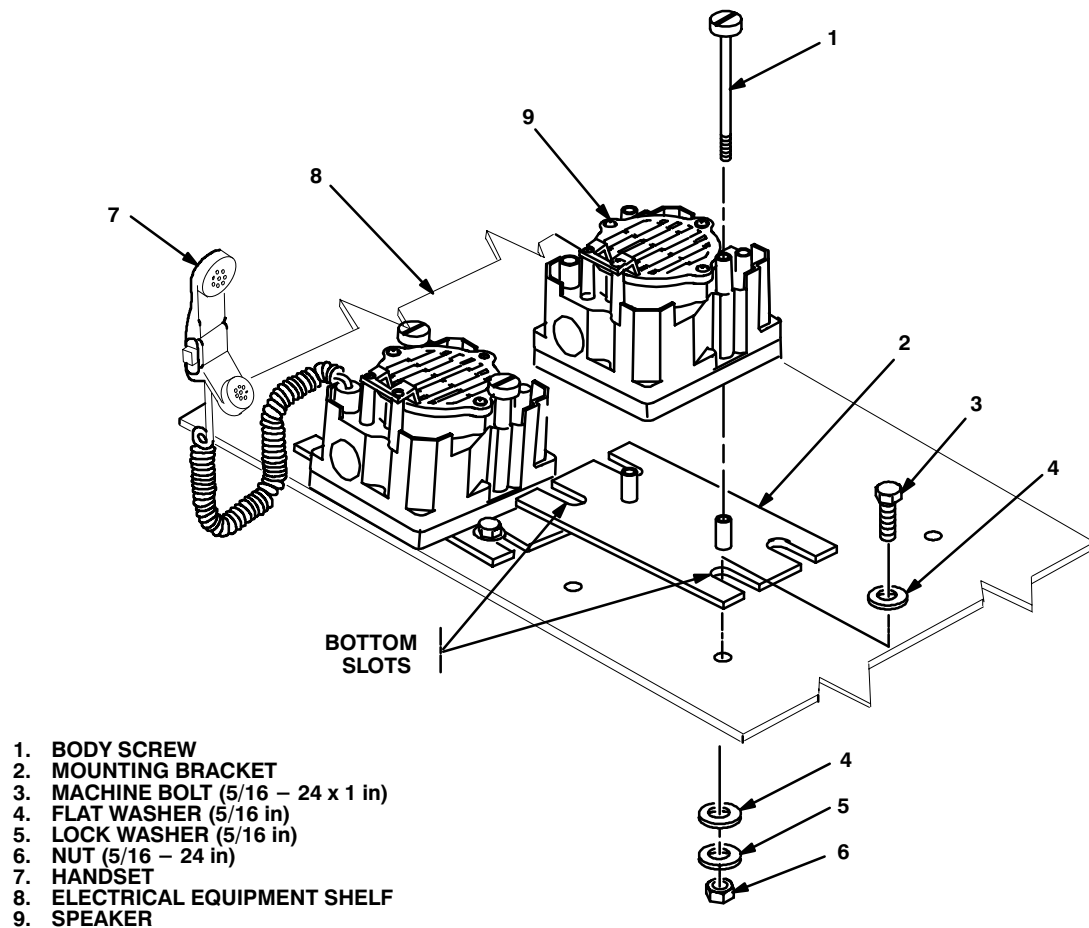

Figure 5-5. Speaker Installation
a. Mounting bracket (2).	Align bottom slots over two forward mounting holes in electrical equipment shelf (8). See figure 5-5.
b. Two machine bolts (3), four flat washers (4), two lock washers (5) and two nuts (6).	Install and secure to mounting bracket (2) and electrical equipment shelf (8).	Tools: 1/2 in socket and 1/2 in open/box wrench.
c. Speaker (9).	Place on mounting bracket (2).
d. Two externally-relieved body screws (1).	Thread through and secure to speaker (9) and mounting bracket (2).	Tools: Flatblade screw-driver.
e. Handset (7).	Connect and secure to speaker (9) connector J2.